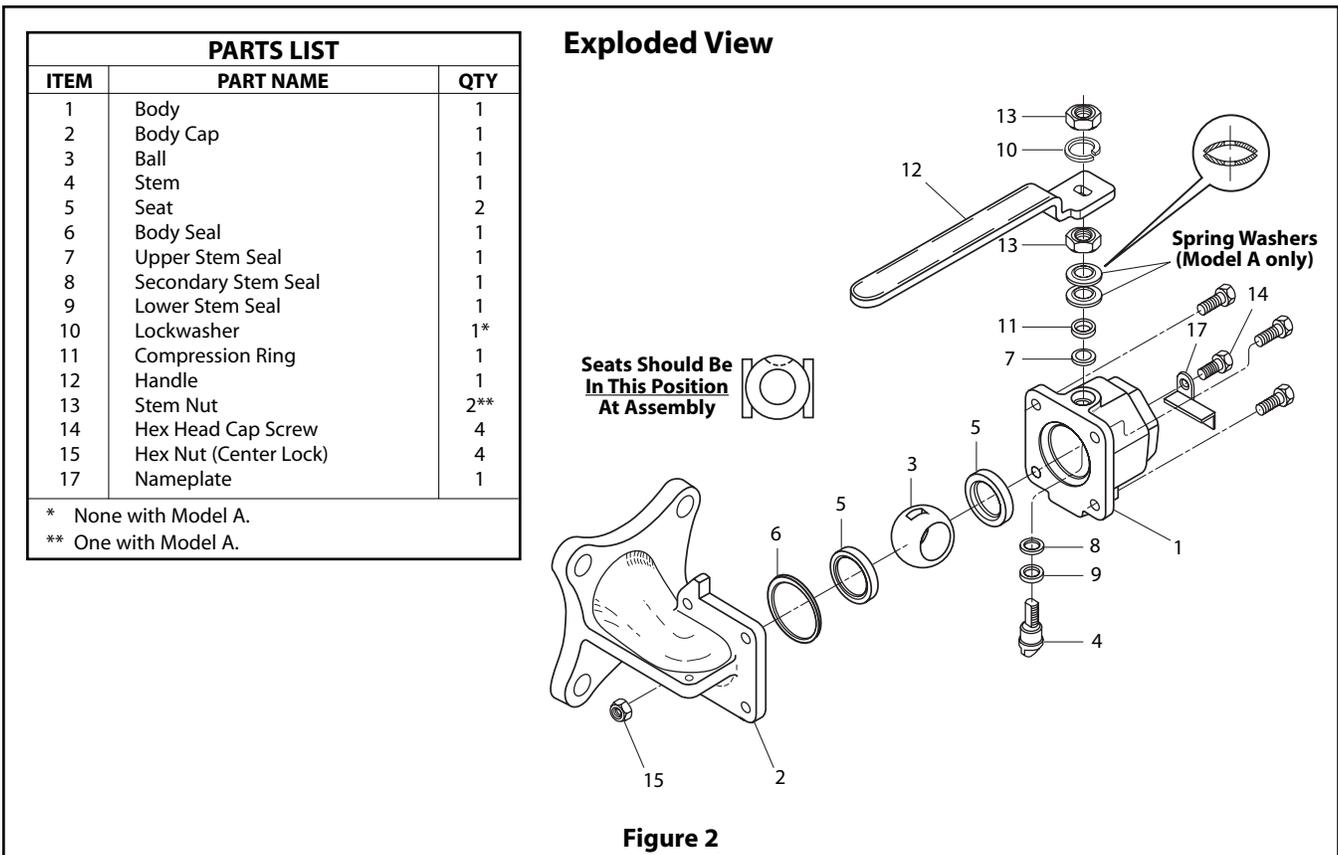

Figure 2
1. Clamping the body (1) securely in a vise, drop in one seat (5) with the first surface on the bottom (**see Figure 2**).
2. From the inside, insert the secondary stem seal (8) first and then the red tinted lower stem seal (9). Insert the upper stem seal (7) from the outside of the valve.
3. Insert the stem (4) through the flanged end of the body (1) and, being careful not to scratch the seals, press it gently up into the stem hole. **DO NOT** attempt to push the stem all the way up into place. Push it up only until you encounter resistance from the lower seal.
4. Holding the stem in place from the bottom, drop on the compression ring (11).
- A. With Model A valves, put on the pair of spring washers (**as shown in Figure 2**), the handle (12) and screw on the stem nut (13): Tighten down the nut until the stem is fully seated, then tighten the nut an additional 1/8 to 1/4 turn.
- B. With Model B valves, screw on the bottom stem nut (13). Tighten down the nut until the stem is fully seated, then tighten the nut an additional 1/8 to 1/4 turn. Put the handle (12) and the lockwasher (10) on the stem. Screw on the top stem nut (13) finger tight, then tighten an additional 1/8 to 1/4 turn.
5. Insert the ball (3) rotating it onto the stem (4) in the **closed position**. If necessary, turn the stem blade to align with the ball slot.
6. Insert the body seal (6) and gently place it into the groove in the body.
7. Insert the second seat (5) in the body cap (2) so that the sealing surface of the seat is towards the ball (**see Figure 2**).
8. **NOTE:** The handle stop is part of the body cap (2). When assembling the valve, be sure the handle stop that projects from the body cap is in the lower right hand corner as the body (1) and body cap (2) by inserting the four body bolts (14). Bolt-heads should be on the body. Attach the nameplate (17).
9. Screw on the four hex nuts (15) until they are snug. Be careful to see that the body and cap are properly aligned. The extended edge of the handle should just touch the handle stop on the cap and the ball should be in the closed position. Using 2 FT•LBS (2.7 N•m) increments, tighten the bolts alternately in a diagonal pattern, as you would the lug nuts on an auto wheel, to 32 – 35 FT•LBS (43 – 48 N•m) **DO NOT TIGHTEN ONE NUT COMPLETELY, THEN PROCEED TO THE NEXT.**
10. Install the handle (11) so that it points away from the threaded port of the valve. Compare the handle orientation against that shown in (**Figures 2 and 3**). If orientation does not correspond to these illustrations, reposition the handle as required.